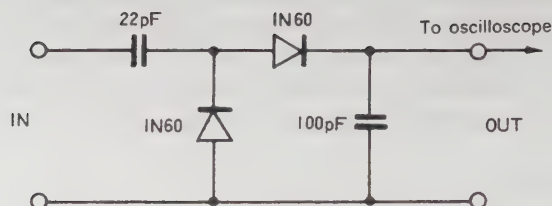

Fig. 40 Detector
- 3) Detector (refer to **Fig. 40**)